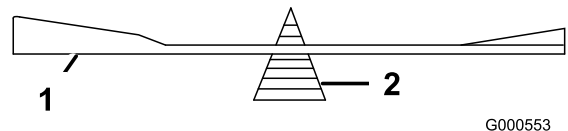

Figure 48
2. Check the balance of the blade by putting it on a blade balancer (Figure 48).